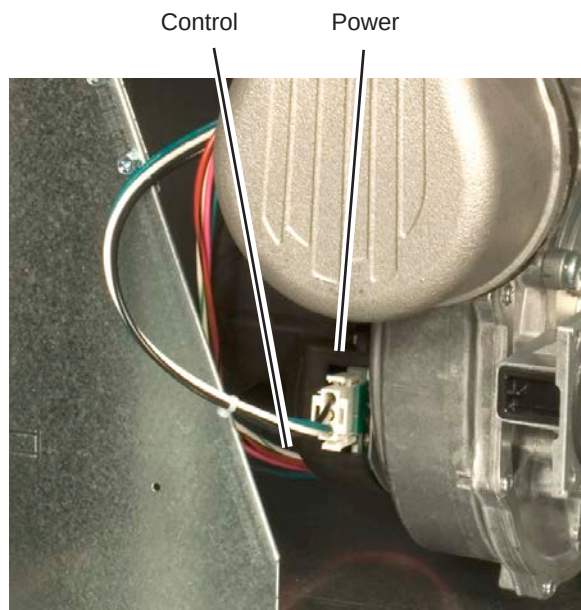

Fig. B23-4 - Wiring connectors for blower
6. Disconnect the wires to the blower. There are two connectors. See Fig. B23-4. The power wires run to the rear connector, and the control wires connect to the front.